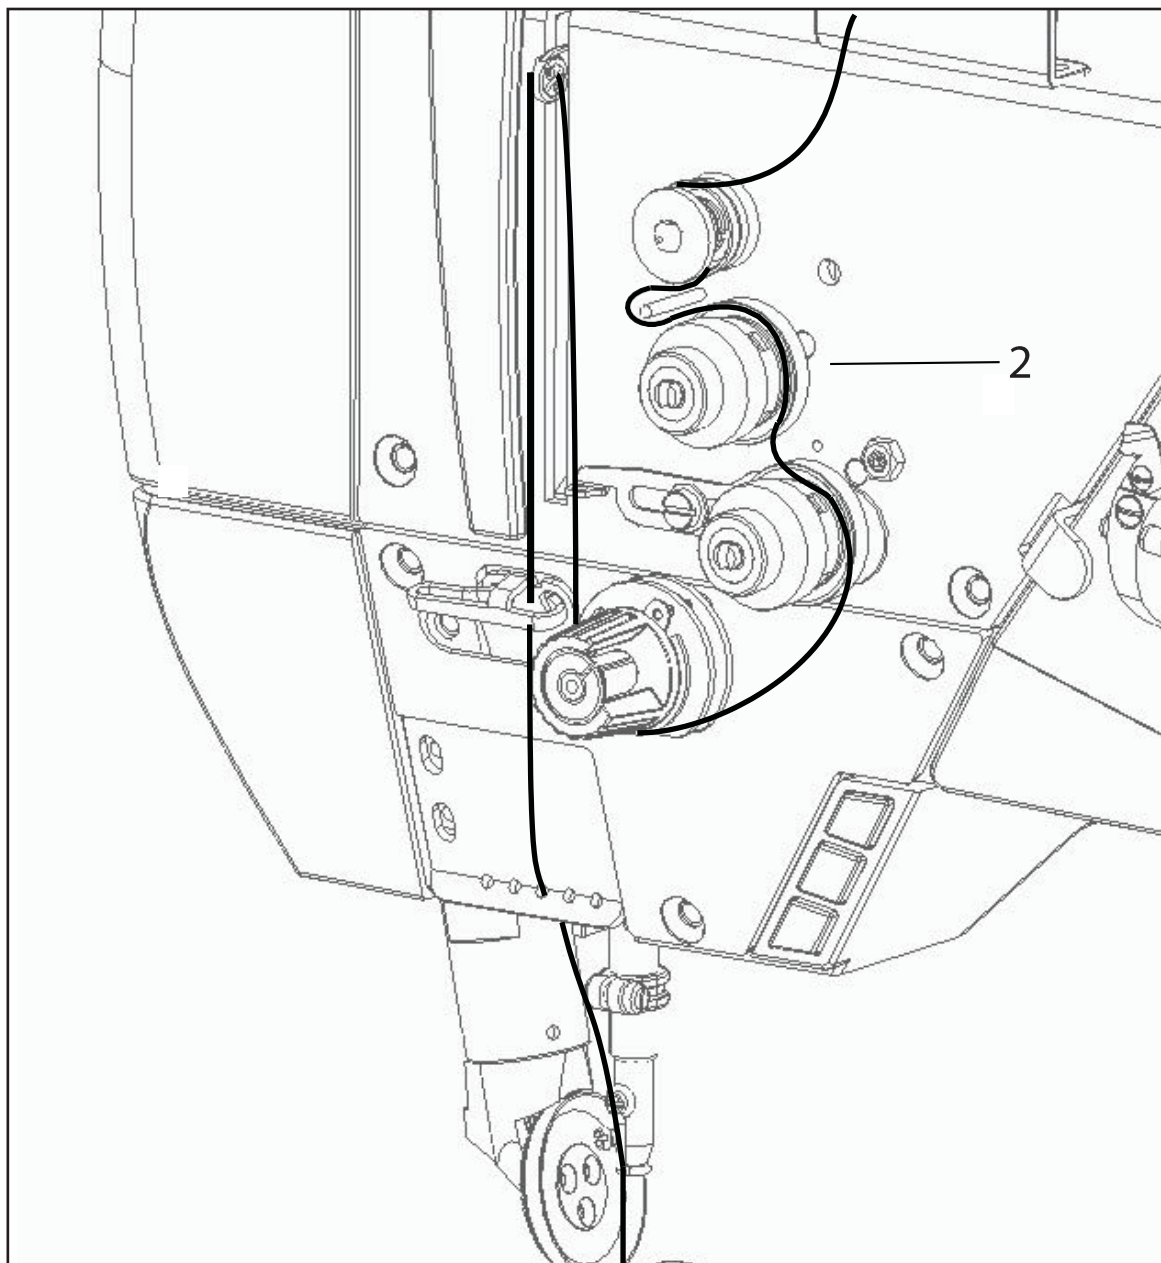

Fig.9.06
- Perform the threading following the diagram in Fig.9.06.